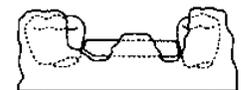

Fig. 2
4. Invest the cast assembly and solder the components (Fig. 2). After soldering, finish each end of the bar to a rounded contour. Return the assembly to the model.